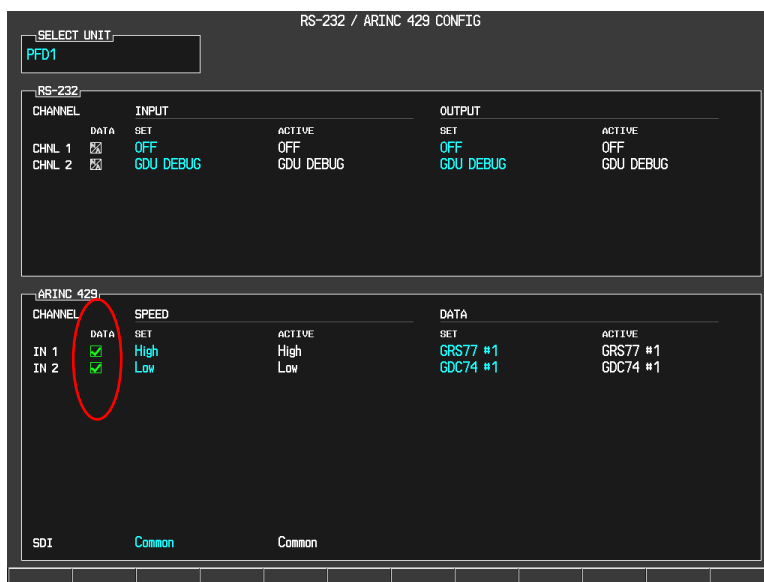

**Figure 8-1. PFD RS-232/ARINC 429 Configuration Page**
5. On the PFD, activate the cursor and select MFD1 in the SELECT UNIT field and press the ENT key. MFD 1 indications will be the same as presented in Figure 8-1.